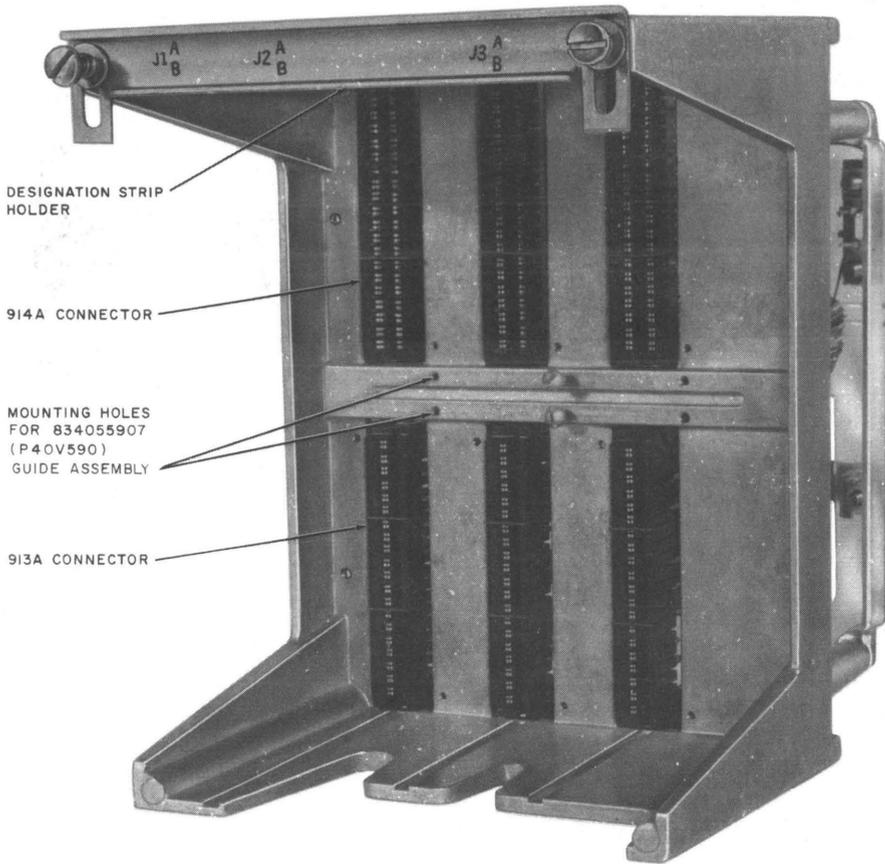

Fig. 53—615A Panel (Front View)
**2.55 615A Panel**—Approximately 8 inches high by 6 inches wide and 9-1/4 inches deep. Equipped with three 914A connectors in the upper row and three 913A connectors in the lower row. Three 8-inch IUs (101-, 102-, or 120-type) or six 4-inch IUs (108A) can be mounted in a 615A panel. (See Fig. 53.) Intended for relay rack or in a 16C apparatus mounting on a 99B bracket.